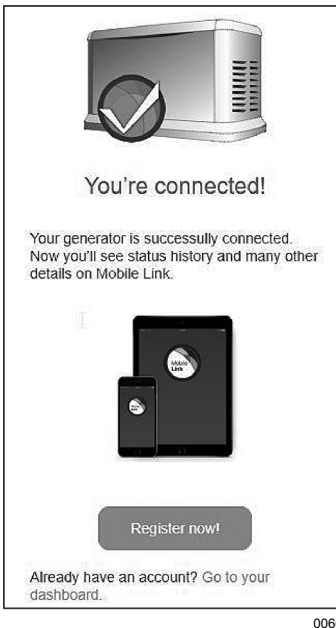

Figure 3-26. Successful Connection
8. See Figure 3-26. Once a successful connection is made to the network, the controller display will show the homeowner's network name.